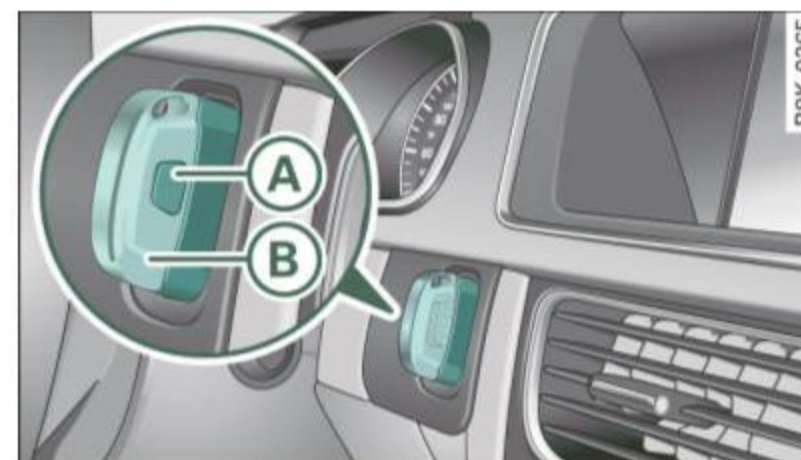

Fig. 30 Ignition switch with ignition key
- Press the release button **(A)** ⇒ fig. 30 for example with a ball point pen and pull the mechanical key **(B)** out of the master key.